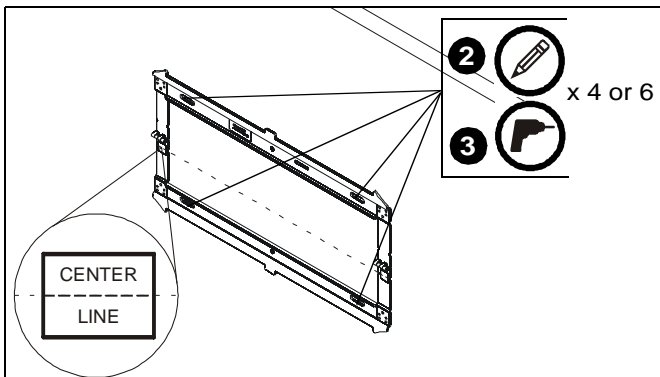

Figure 5
2. Level wall plate (A) and mark locations of pilot holes at desired mounting location. (See Figure 5)
**NOTE:** The vertical center of the display will be even with the center line indicated on the labels located directly below each hinge. Keep this in mind when determining mounting location. (See Figure 5)
3. Drill 5/16" (8mm) diameter pilot holes into wall at marked locations. Holes must be drilled at least 3 1/4 inches deep. (See Figure 5)